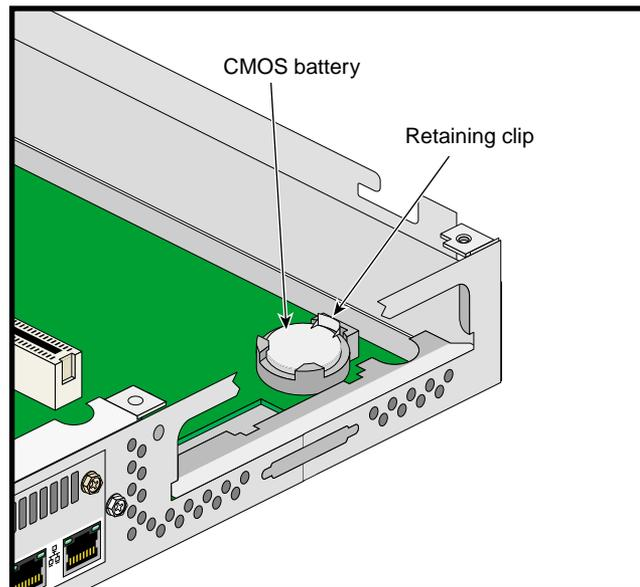

Figure 2-54 Replacing the CMOS Battery
2. Push on the retaining clip and remove the old battery from its holder, as shown in Figure 2-54.